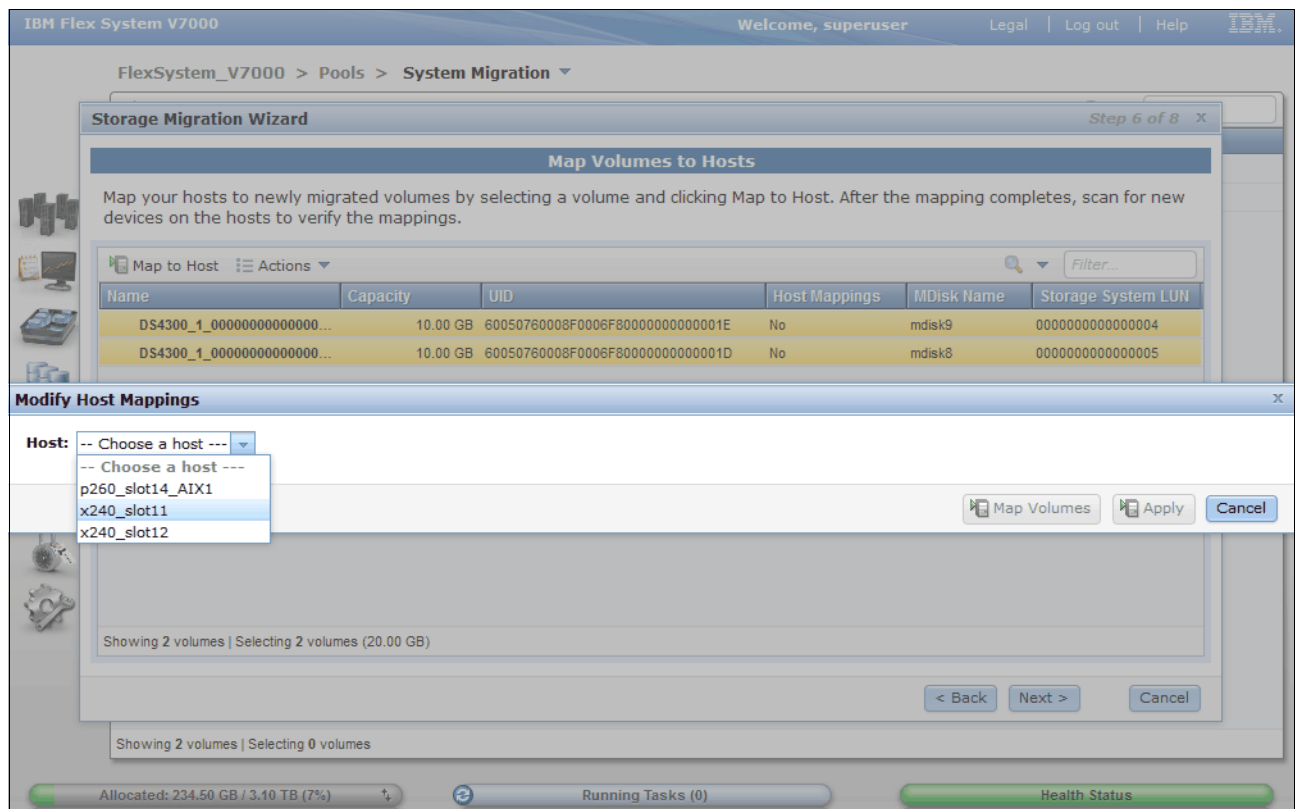

Figure 7-16 Storage Migration Wizard - Map disk to Windows 2008 host
7. Select the host you want to use for mapping the volume. Click **Next** to continue with the migration wizard as shown in Figure 7-16.